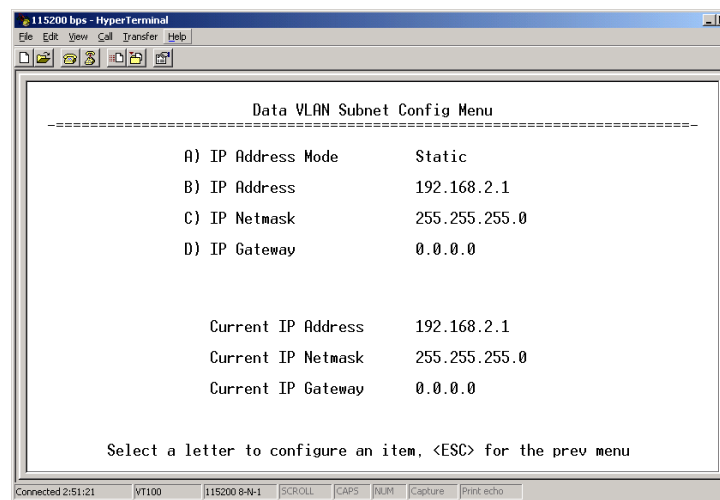

Figure 3-19. Data VLAN Subnet Configuration Menu
- **Data VLAN Subnet Config**—Presents a screen where you can view or set the IP mode and address information (see Figure 3-19 on Page 52).
Selecting option **I** from the VLAN Configuration Menu displays the screen shown in Figure 3-19 on Page 52. Note that the IP address is different even though it is the same physical unit. This is because this IP address is defined for a different VLAN.